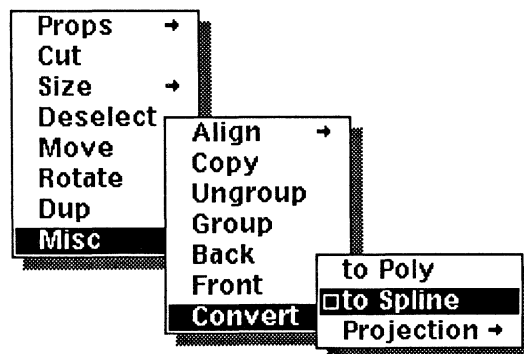

Figure 20-28. Convert command on the Misc submenu
- create one or more polys, and use the command **Misc → Convert → to Spline** on the Object Selected popup menu (Figure 20-28)